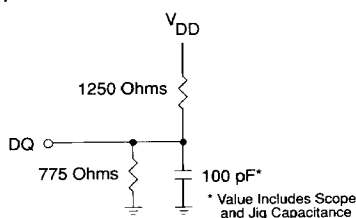

Figure 3. Output Load.
3. Transition is measured ± 500 mV from low or high voltage with load (see Figure 3).